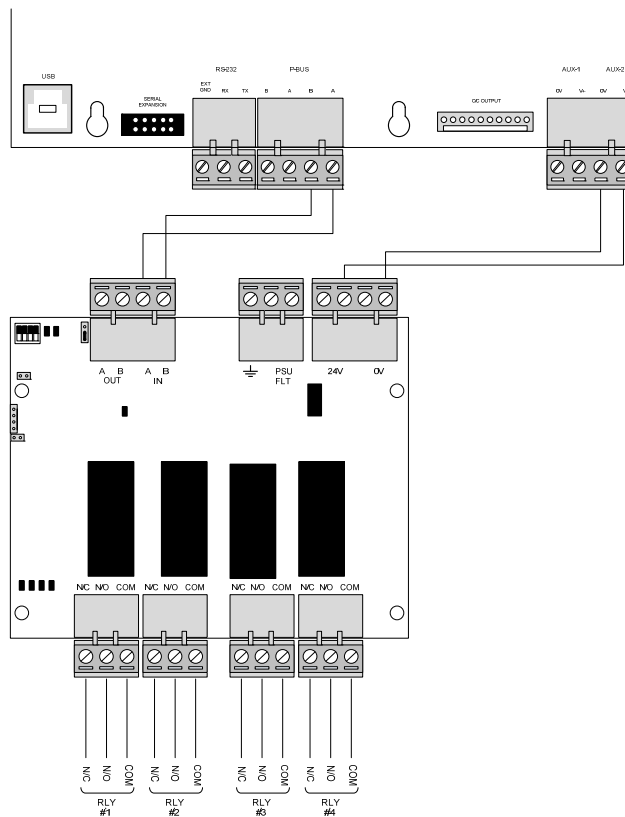
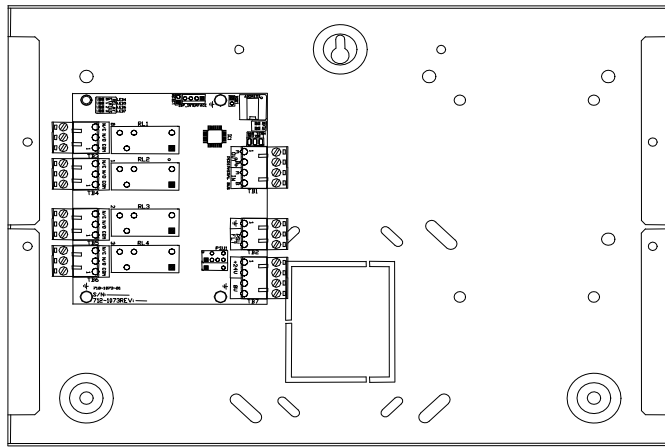

Figure 41 - AX-RL4 Axis^{AX} Enclosure Mounting
Figure 42 – AX-RL4 AXM-009 Enclosure Mounting
The AX-RL4 can either mount onto the four (4) standoffs located on the left-hand side of the Axis^{AX} enclosure below the AX-CTL base card (see figure 41) or within an AXM-009 enclosure (see figure 42).